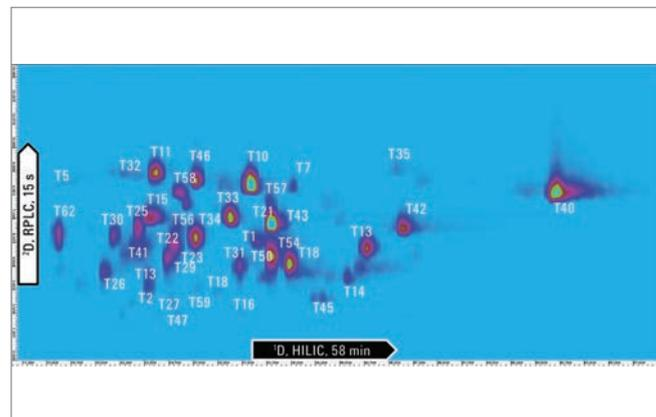

Figure 1. LCxLC contour plot for the analysis of a tryptic digest of trastuzumab.
This article describes the application of HILIC×RPLC to the analysis of tryptic digests of trastuzumab using the Agilent 1290 Infinity 2D-LC solution coupled to an Agilent 6530 Accurate-Mass Q-TOF LC/MS System. A combination of HILIC in the first dimension and RPLC in the second dimension should provide good orthogonality for compounds such as peptides in an LC×LC setup. This orthogonality and complementarity has been proven in various reports, but mostly using a stop-flow or an offline LC×LC approach. The LC×LC peptide map of trastuzumab is shown in Figure 1. The contour plot was generated with the MS total ion current data. The spots were identified by matching the experimentally acquired data on the theoretical trastuzumab sequence at high mass accuracy (< 5 ppm) using Agilent MassHunter Bioconfirm software. The resulting separation shows good orthogonality between both dimensions.
be manually recreated in Excel taking into consideration the data acquisition frequency and the switching frequency of the valve (3, 4). A 2D contour plot of a sample mixture made of acidic, basic, and neutral compounds resolved on mixed mode stationary phases in two-dimensions, acidic in primary and basic in secondary, is shown in Figure 1 (4). The sample components are separated into acidic and basic zones with the neutrals along the diagonal. The location of sample components in the two-dimensional plane reflects its chemical nature.